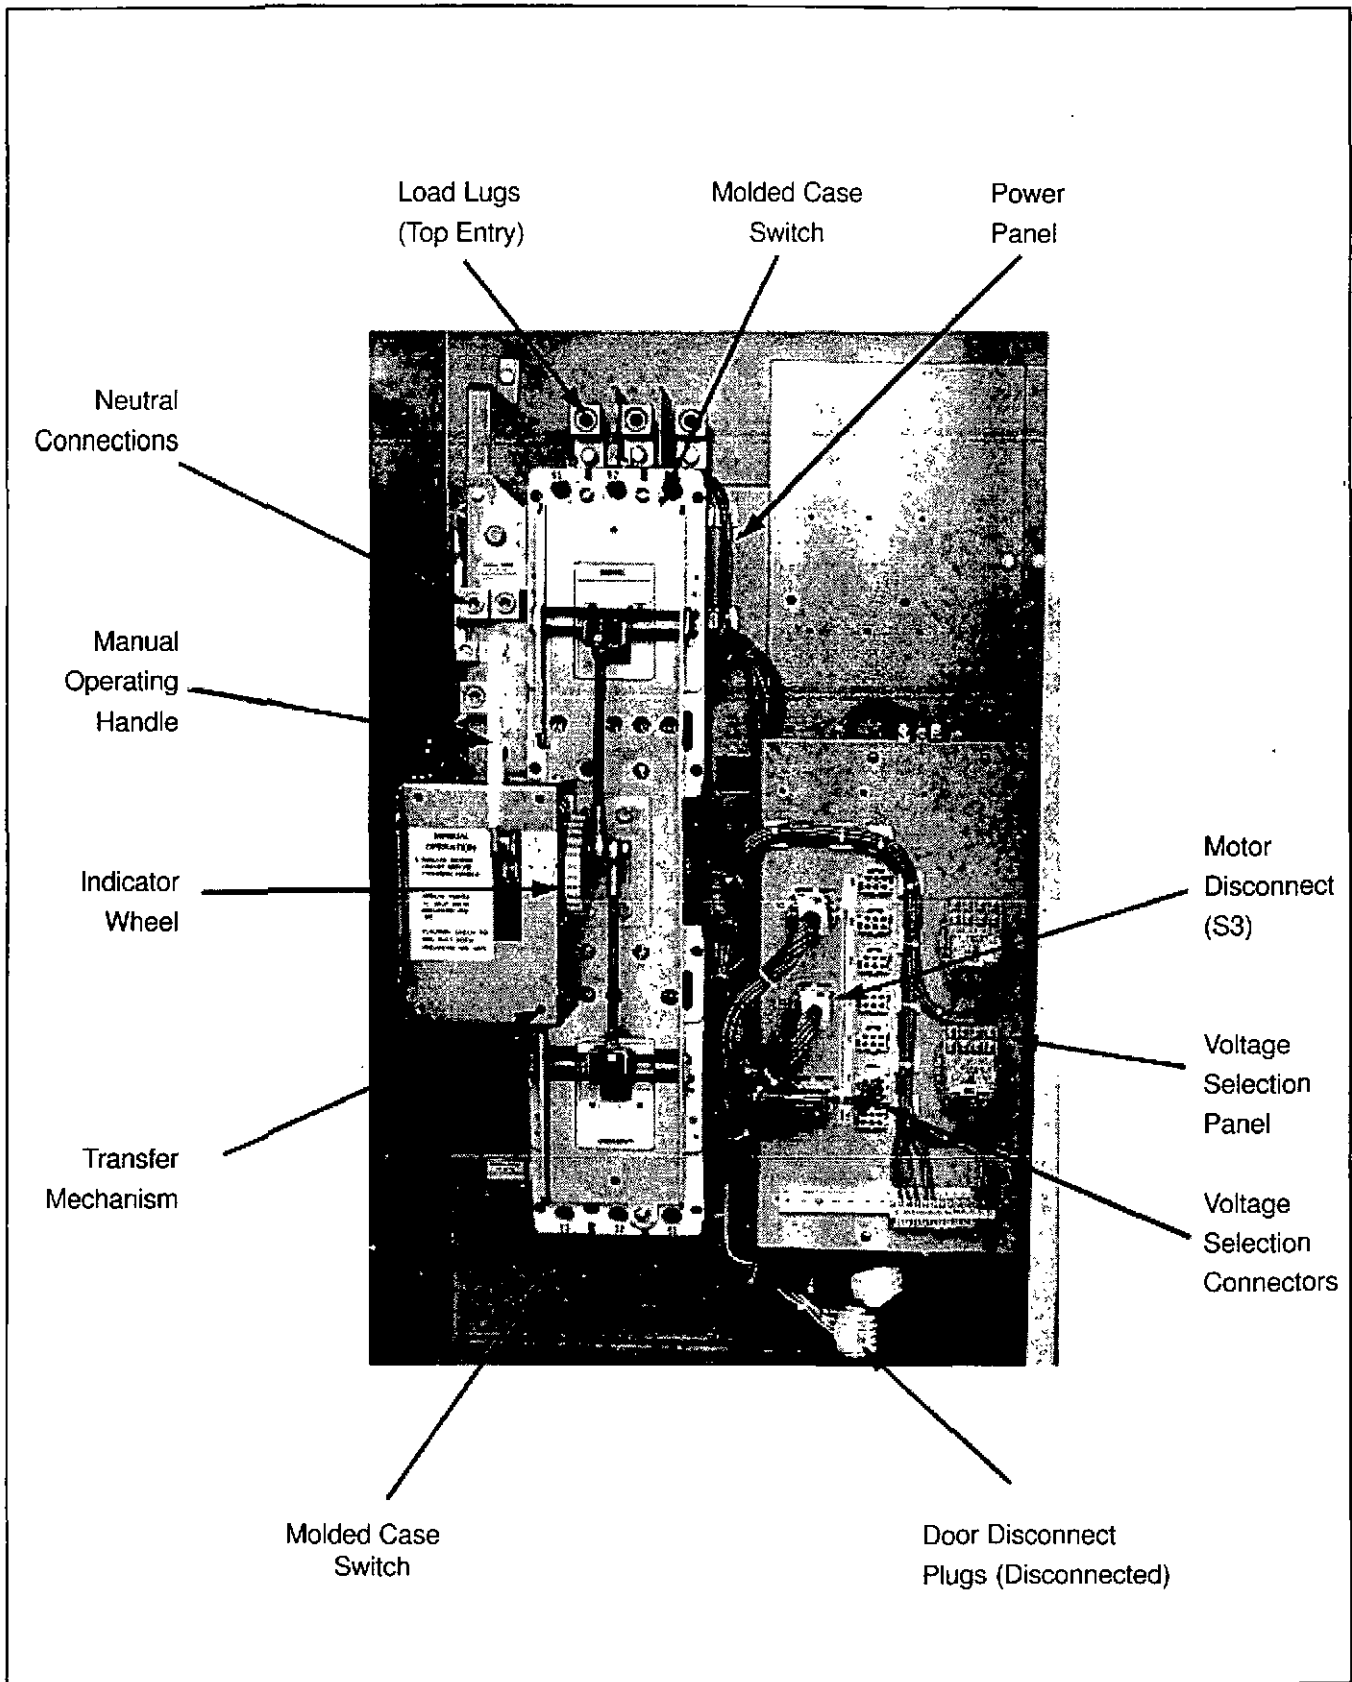
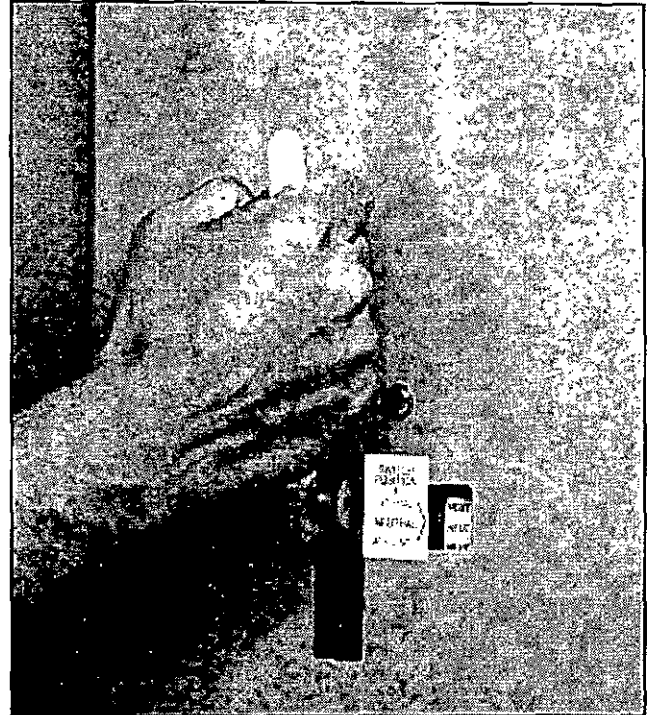
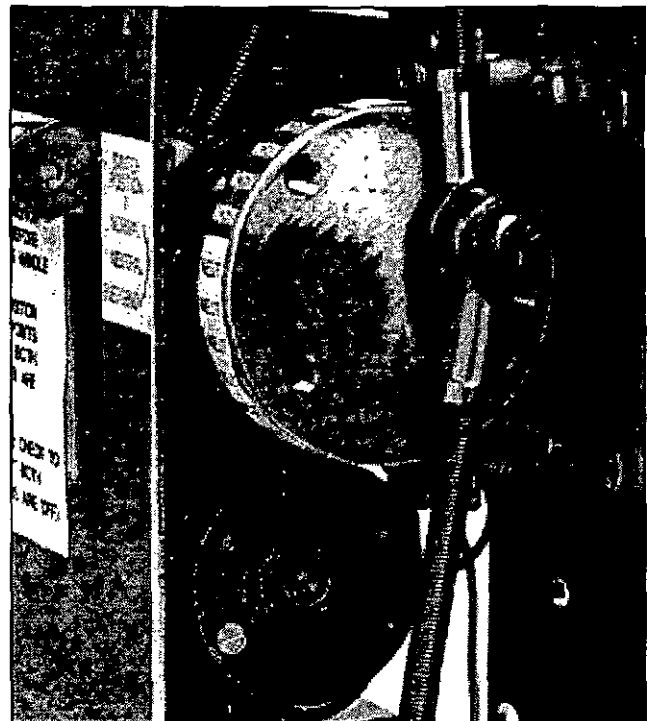
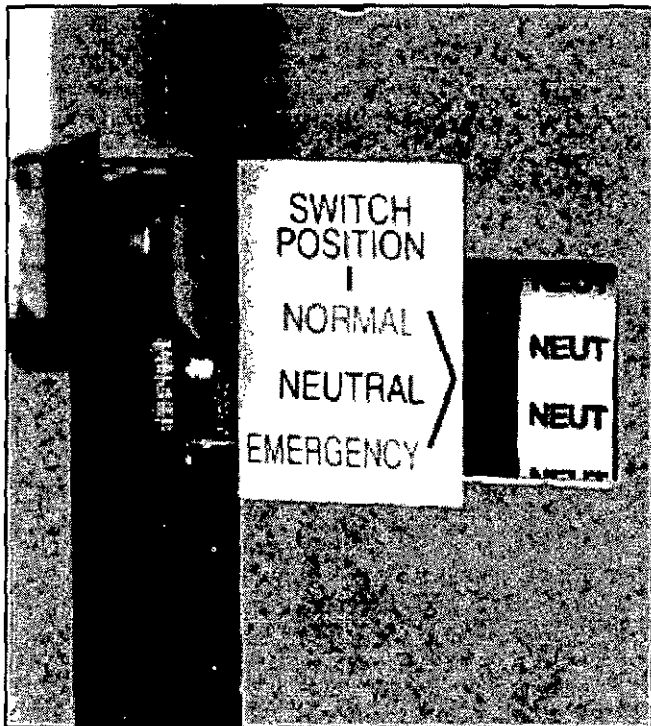

Figure 4-3 Typical Vertical Design Transfer Switch Equipment (Door Open and Solid Steel Shield Removed)
Figure 5-1
Figure 5-2 Indicator Wheel Shown Mounted
Figure 5-3 Indicator Wheel indicating Neutral Position
- Step 1: Disconnect the power panel from the rest of the transfer switch by unplugging the connector plugs (S1, S2 and S3) (Figure 4-3).
A transfer switch provides main contacts to connect and disconnect the load to and from the normal and emergency power sources (Paragraph 3-2.2). A ratchet type transfer mechanism provides the mechanical motion required to open and close the mechanically interlocked main contacts (Paragraph 3-2.3 and Figure 3-2). Each transfer switch is provided with the same mechanical mechanism design and a manual operating handle (Figure 4-3). The manual operating handle can be used to create the rotational motion required to open and close the main contacts through a rigid mechanical interlocking system (Figure 5-1). An indicator wheel attached to the operating handle and mechanical interlocking system rotates with each movement of the handle to open and/or close the main contacts (Figures 5-2). Three distinct switch positions are provided and indicated visually on the indicator wheel (Figure 5-3). The three distinct switch positions or contact conditions are: